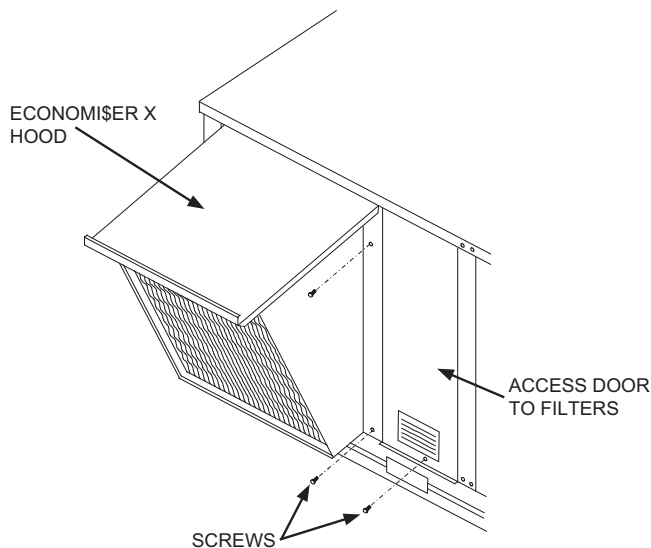

Fig. 7 — EconoMiSer X Hood Installation
12. Install the EconoMiSer X hood over the EconoMiSer X. Use screws provided. (See Fig. 7 and 9.) Insert screw through right side flange of hood into EconoMiSer X flange.
14. Install access door next to hood. Screw bottom of door to HVAC unit. (See Fig. 7 and 9.) For the economizer for the extra large cabinet, install plastic inserts on right-hand vertical post and install long gasketed screws along the vertical edge. Use standard serrated screws along the bottom of the panel for all units.